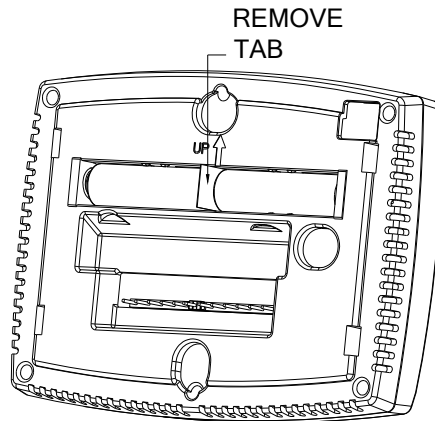

Fig. 23. Remove tab on thermostat back.
2. Locate and remove the tab. See Fig. 23.